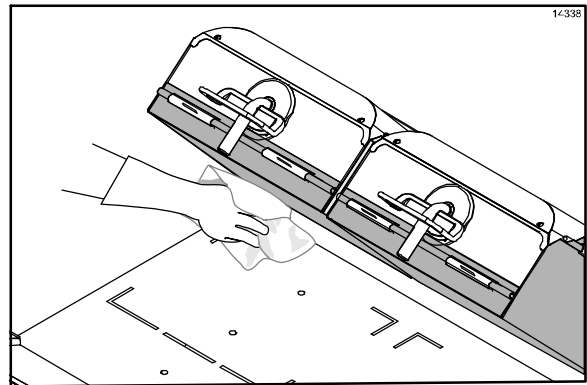

Figure 72
7. Wipe the exposed surface of the release sheets with a clean, sanitizer-soaked grill cloth. (See Figure 72.)